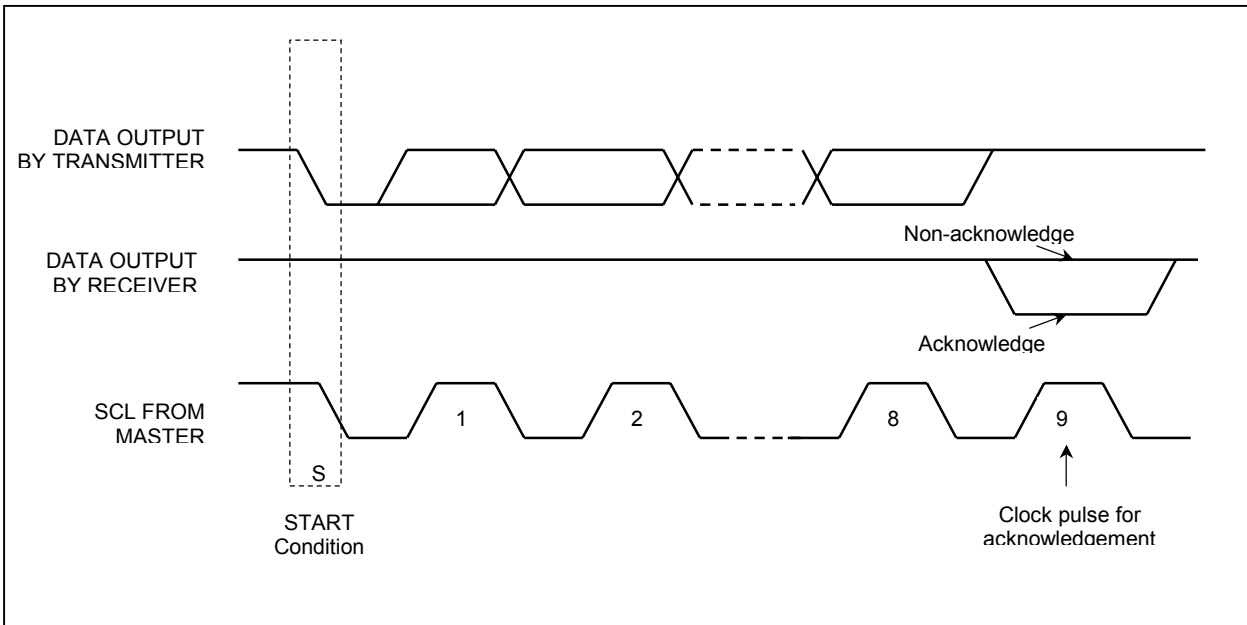

Figure 9 Definition of the acknowledgement condition
- 4) An acknowledgement signal will be generated after receiving one byte of data, including the slave address and the R/ \bar{W} bit. Please refer to the figure 9 on page 22 for the graphical representation of the acknowledge signal. The acknowledge bit is defined as the SDA line is pulled down during the high period of the acknowledgement related clock pulse.
- 4) An acknowledgement signal will be generated after sending one byte of data, including the slave address and the R/\overline{W} bit. Please refer to the figure 9 on page 22 for the graphical representation of the acknowledge signal.